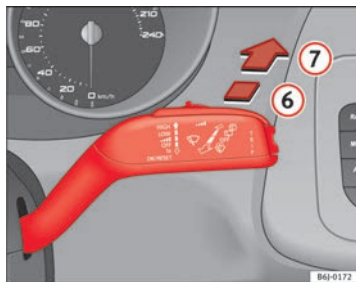

Fig. 66 Windscreen wiper and windscreen wash lever: rear window wiper
- Press the lever forwards to position **6** ⇒ Fig. 66. The wiper will wipe the window approximately every 6 seconds.
- Press the lever fully forwards to position **7** ⇒ Fig. 66. The rear wiper and washer operate at the same time. The windscreen wash system will function as long as you hold the lever in this position.